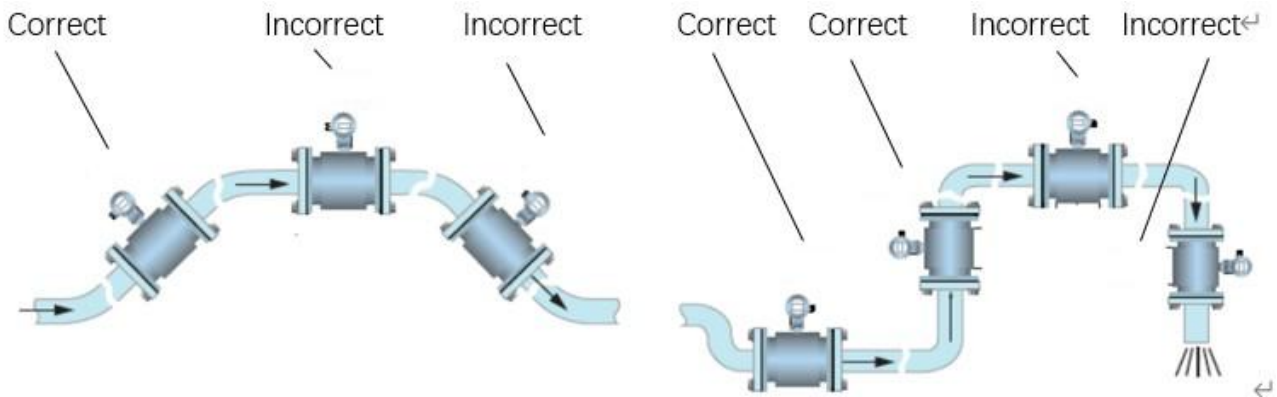

Figure 1 Installation position
- (1) When installing electromagnetic flow meters, they should avoid direct sunlight or areas with high ambient temperature to prevent insulation performance damage caused by unacceptable temperature rise of the excitation coil due to high ambient temperature.
- (2) Electromagnetic flow meters should be kept away from magnetic fields, such as large motors, transformers, and welding machines
- (3) During installation, electromagnetic flow meters should avoid vibration.
- (4) The direction of fluid flow should be consistent with the direction indicated by the flow meter.
- (5) Electromagnetic flow meters are generally installed upstream of the valve.
(6) The electromagnetic flowmeter must operate under full pipe conditions and cannot be empty or empty. It is necessary to ensure that the measuring pipeline is always filled with the measured medium. When installing, attention should be paid to the installation position, as shown in Figure 1.